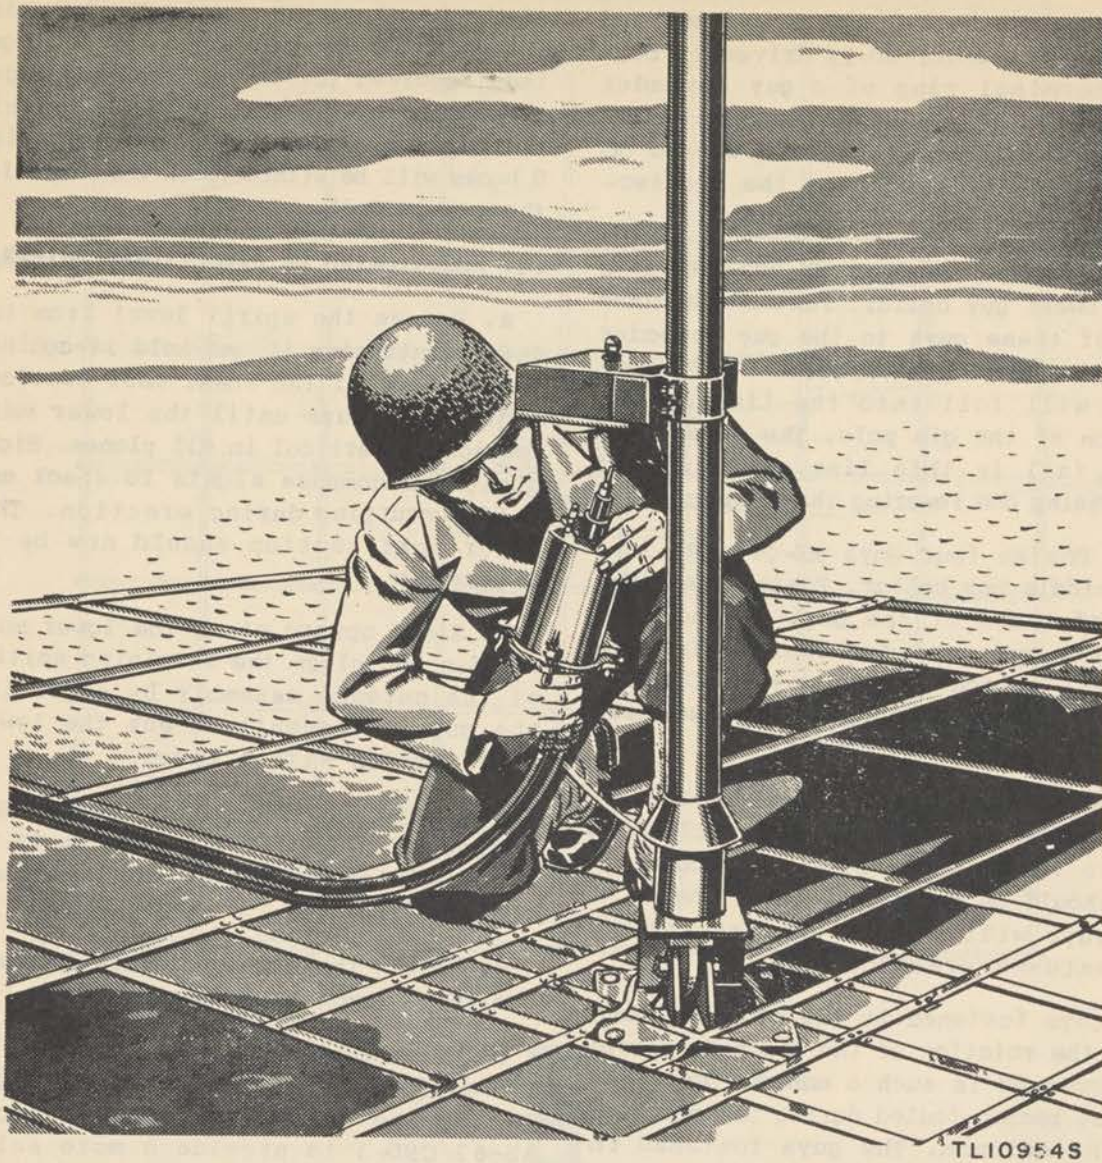

Figure 21. Installation of Phase Inverter MC-411-A.
b. Insert the banana plug on the phase inverter into the antenna jack on the box of the mounting collar (fig. 21).